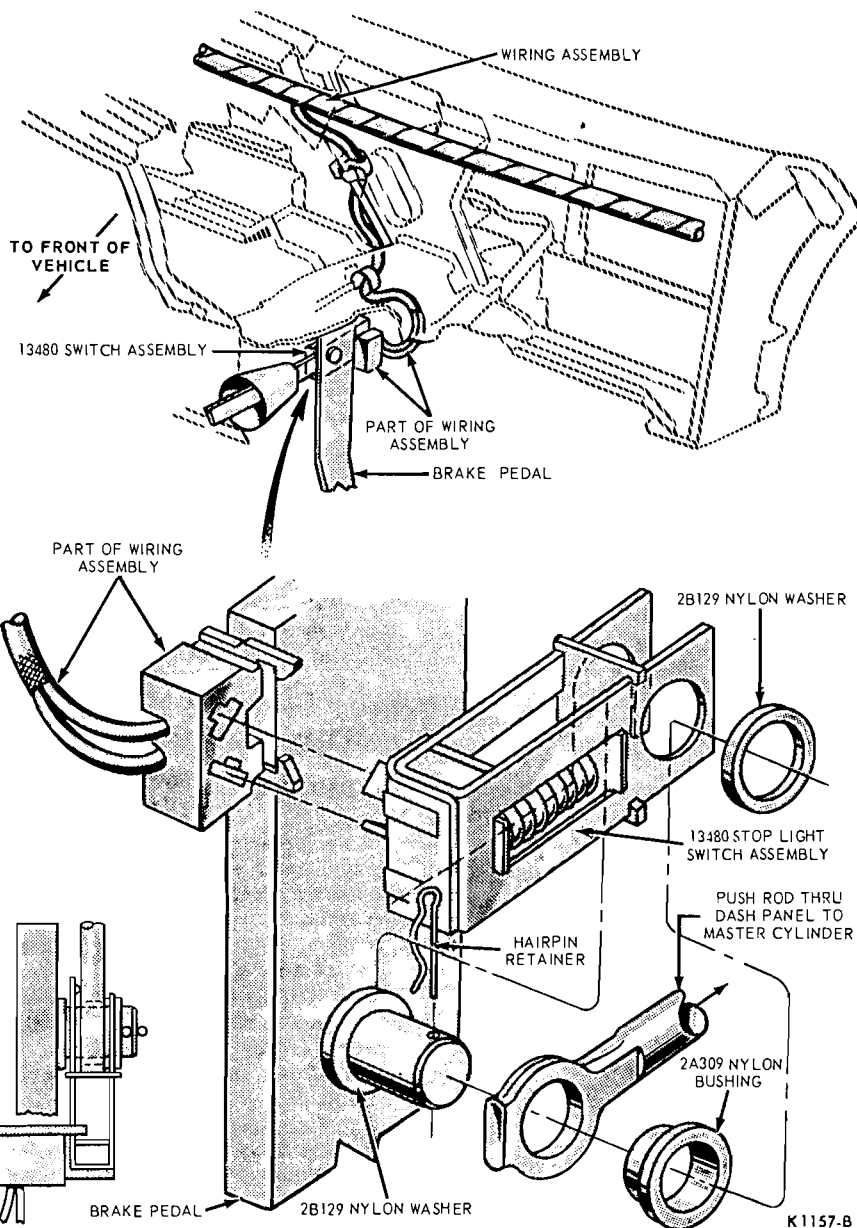

FIG. 9—Mechanical Stoplight Switch Assembly
2. Remove the hairpin retainer, slide the stop light switch, the push rod and the nylon washers and bushing away from the pedal, and remove the switch (Fig. 9).
3. Position the switch, push rod, and bushing and washers on the brake pedal pin, in the order shown in Fig. 9, and install the hairpin retainer.
4. Connect the wires at the connector, and install the wires in the retaining clip (Fig. 9).